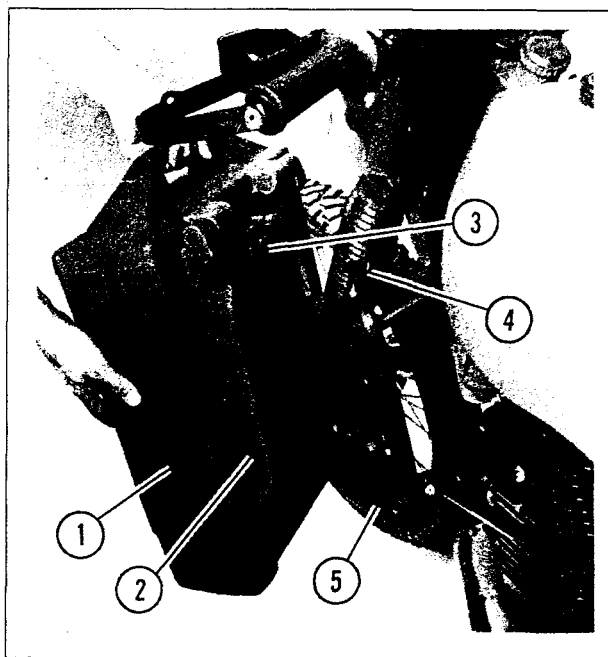

Figure 6-3. Pannier
1. See Figure 6-3. Remove pannier (1) from vehicle by pulling rubber "T" strap (4) up and away from receptacle (3). Lift pannier (1) up and off pannier retaining bracket (5).
2. Install pannier (1) on vehicle by aligning pannier retainer groove (2) with pannier retaining bracket (5). Slide pannier (1) down until it seats firmly on pannier retaining bracket (5). Stretch rubber "T" strap (4) up and over receptacle (3).